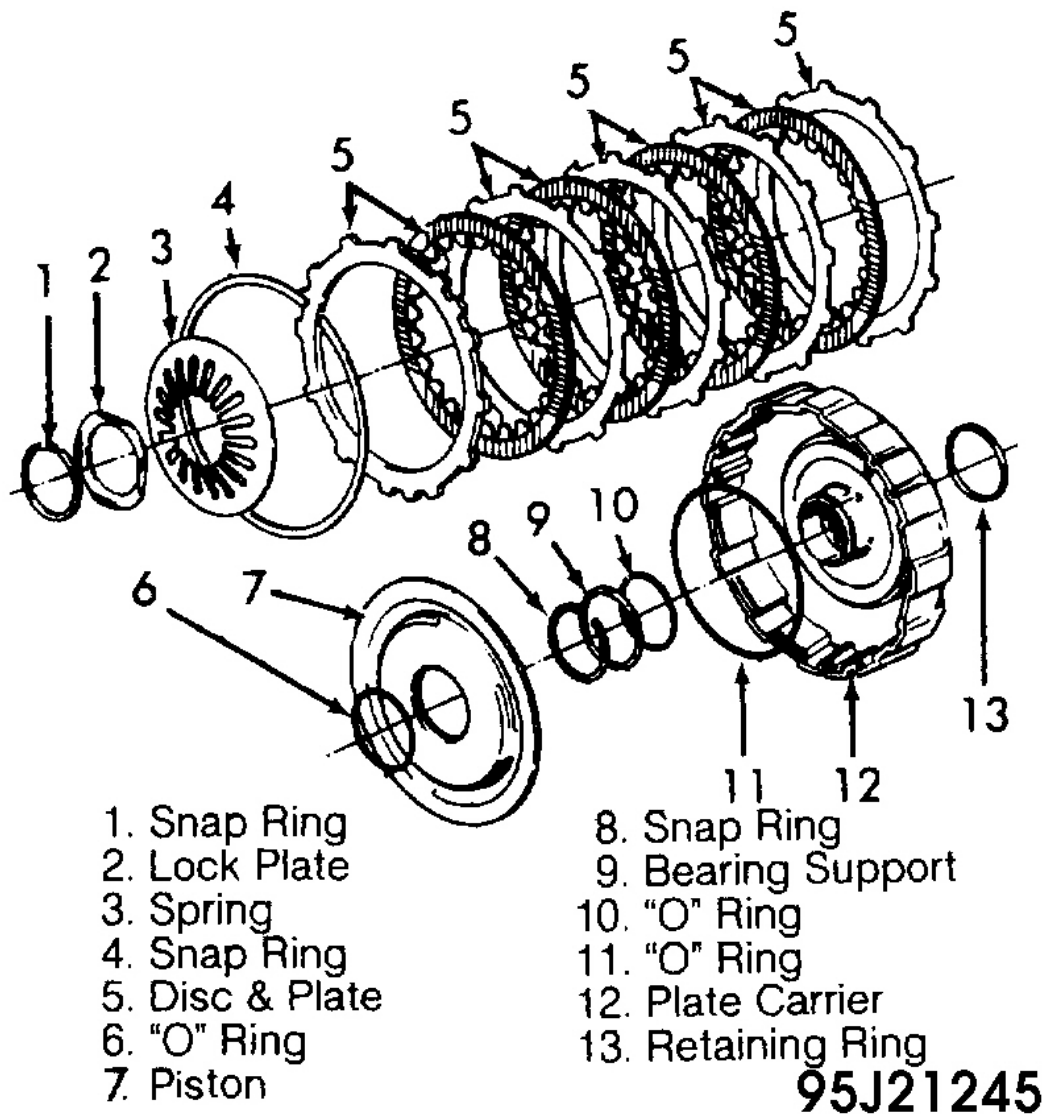

Fig. 11: Exploded View Of Clutch "B"
1. Remove snap ring, discs and plates from plate carrier. Note number and arrangement of discs and plates for reassembly reference. See **Fig. 11**.
2. Ensure original number of discs and plates are installed and in correct sequence. See **Fig. 11**